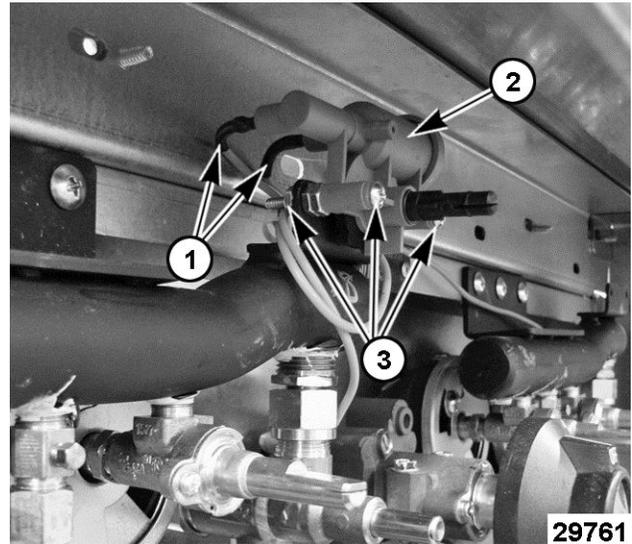

Fig. 66
- Disconnect igniter wires (1, Fig. 66) at the rear of rotary igniter (2, Fig. 66).
- Remove screws and nuts (3, Fig. 66) securing rotary igniter (2, Fig. 66) to the mounting bracket on gas manifold then remove rotary igniter.